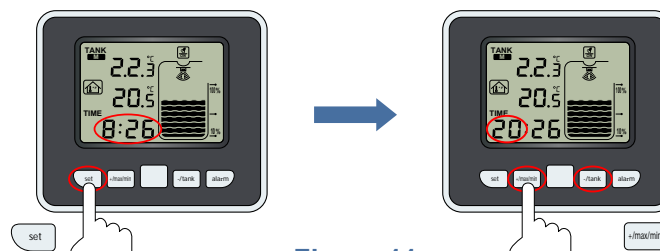

Figure 11
- **HOUR:** Hour value will flash. Press **+max/min** or **-/tank** key to increase or decrease hour value. When hour value is set press **set** key to set minute value (Figure 11).